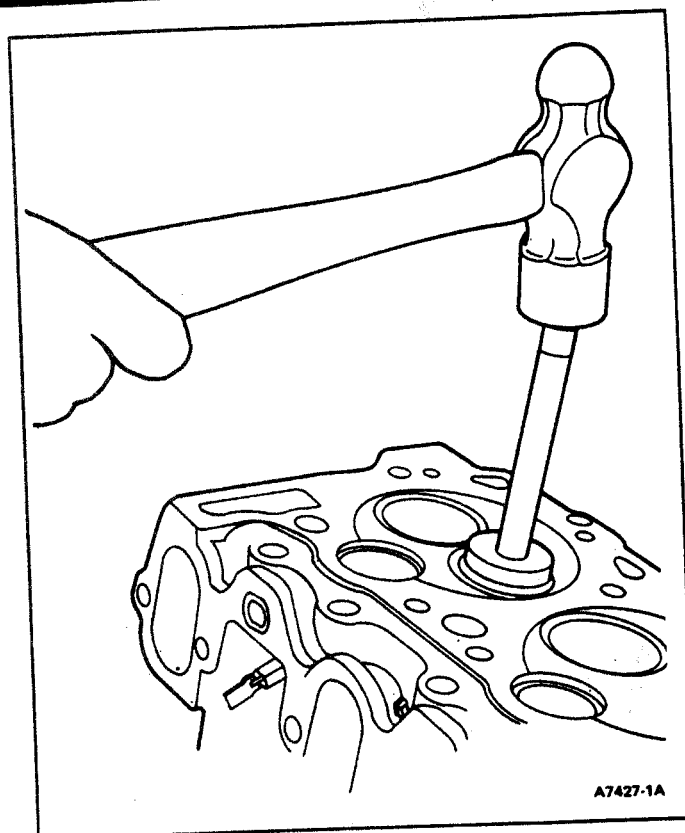

FIG. 72 Installing Exhaust Seat Insert
1. Install using Rotunda Model 014-00309 and a hammer (Fig. 72). Valve seat, inserts supplied for service are standard size, .015" oversize and .030" oversize.